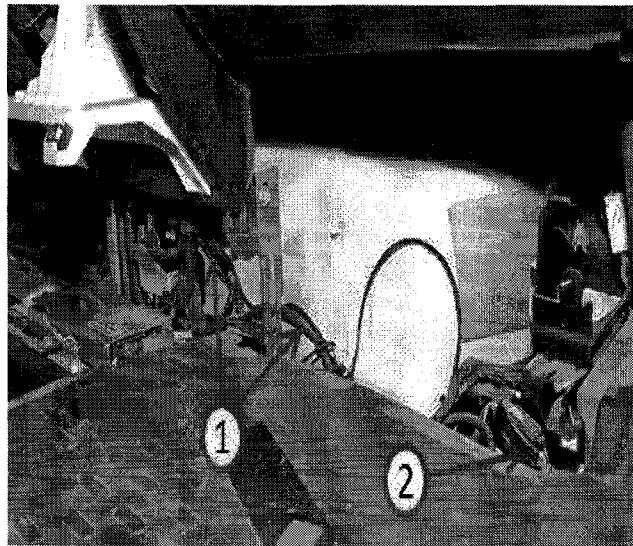

Fig. 19 Overlay Harness Routing to Right Side of Vehicle
26. Route the overlay harness through the area shown in Figure 19.
27. Locate in-line connector 1008A found just behind the cover removed in Step 25 (See Figure 19).